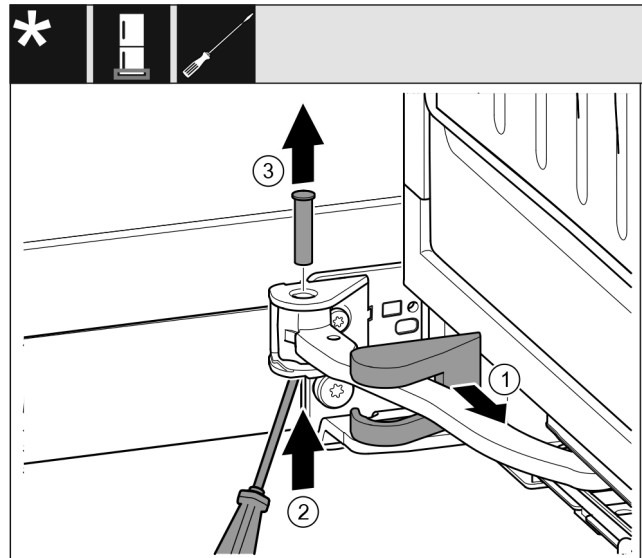

Fig. 16
- Pull off the swap bearing block cover *Fig. 16 (1)* and slide it along the joint.
- Use the screwdriver to lift the pin *Fig. 16 (2)* from the bottom.
- Pull the pin *Fig. 16 (3)* out from the top.